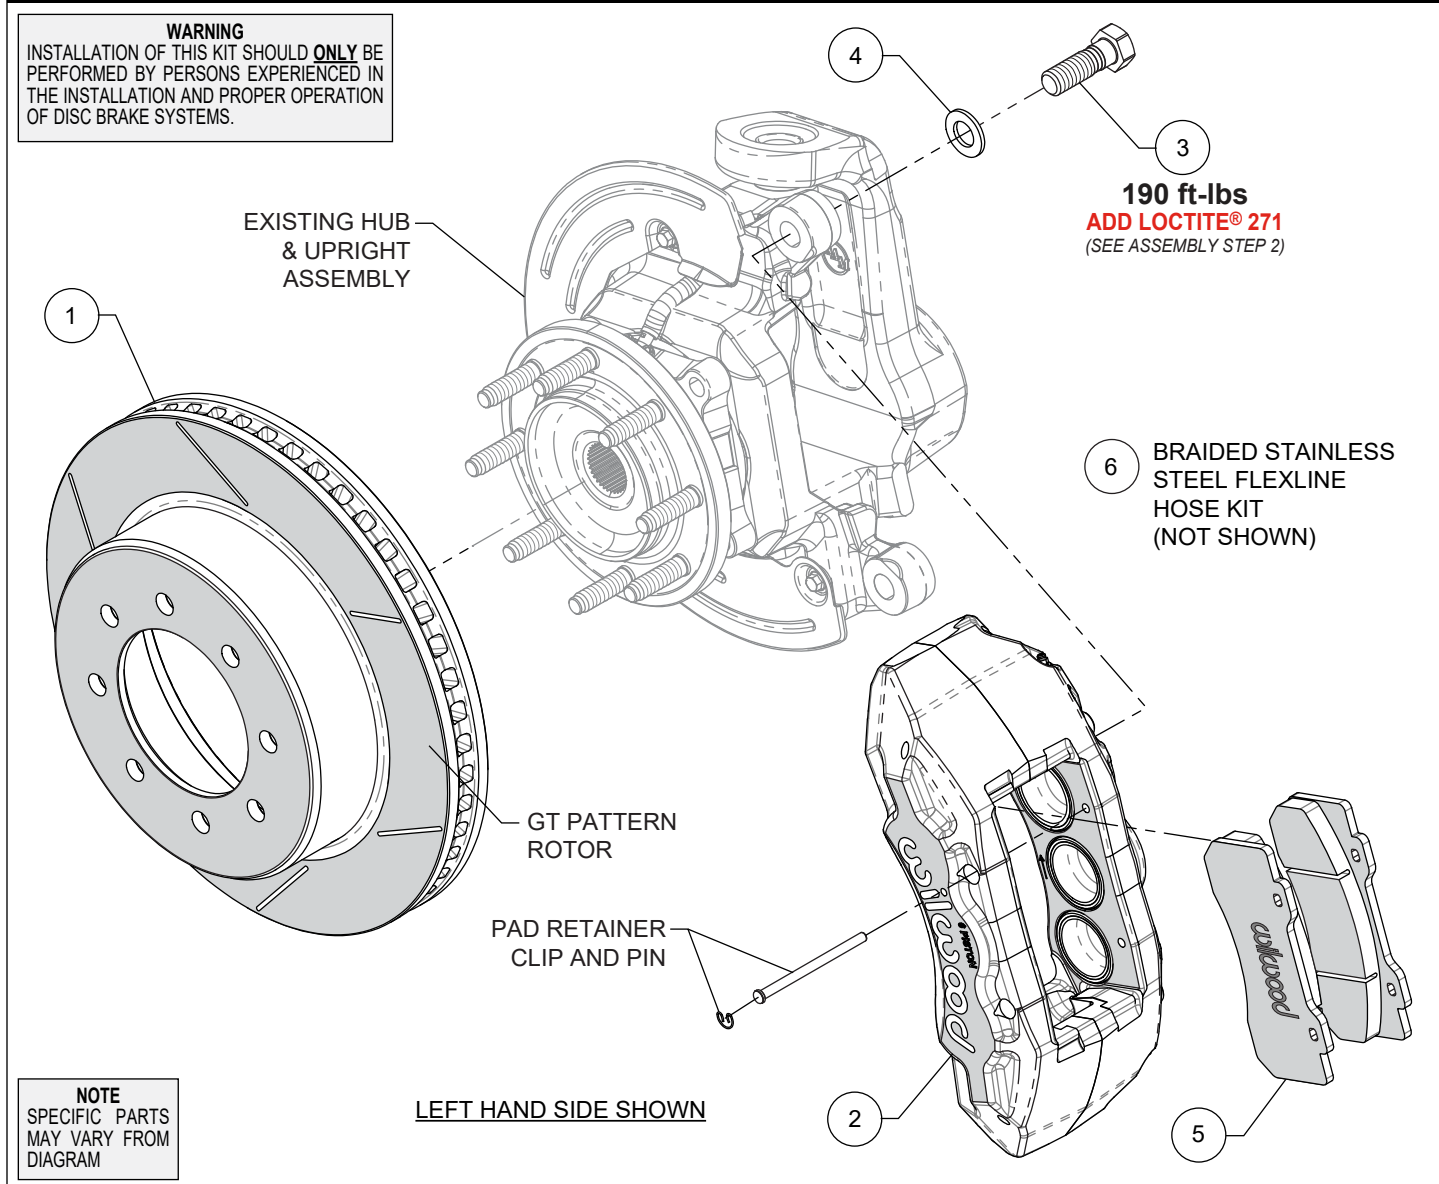

Figure 1. Typical Installation Configuration
Numbers in parenthesis refer to the parts list and Figure 1 on the preceding pages.
STEP 1 Slide the rotor (1) onto the hub. **NOTE:** *The rotor must fit flush against the hub flange or excessive rotor run out may result.* Install three lug nuts (finger tight) to keep the rotor in place while continuing with the installation, Photo 1.
STEP 2 **NOTE:** *This kit contains distinct right and left hand calipers that must be mounted in a specific direction, as described below.* Ensure that the caliper is mounted so the largest pistons are at the rotor exit end of the caliper, in relation to the forward direction of the rotor. Mount the caliper (2) onto the OEM caliper mounting bosses of upright using bolts (3) and washers (4), as shown in Photo 2 and Figure 1. Apply red *Loctite®* 271 to bolt threads, and torque to value shown in Figure 1.
STEP 3 Remove the two pad retaining pins from the caliper by carefully popping out the pin retaining clips and sliding out the pins. Insert the brake pads (5) into the caliper, with the friction material facing the rotor, as shown in Photo 3. Secure the brake pads in place with the pad retaining pins and clips, Photo 4.
STEP 5 Attach brake line to caliper. **NOTE:** *OEM rubber brake hoses generally cannot be adapted to Wilwood calipers.* Install Wilwood's braided stainless steel flexline hose kit (6), p/n 220-15672, included with this kit. The caliper inlet fitting is a 1/8-27 NPT. Use the included steel adapter fitting at the caliper (use PTFE tape on the pipe threads of adapter fitting for proper sealing to caliper). Note the final orientation of the caliper inlet adapter fitting as shown in Photo 6.